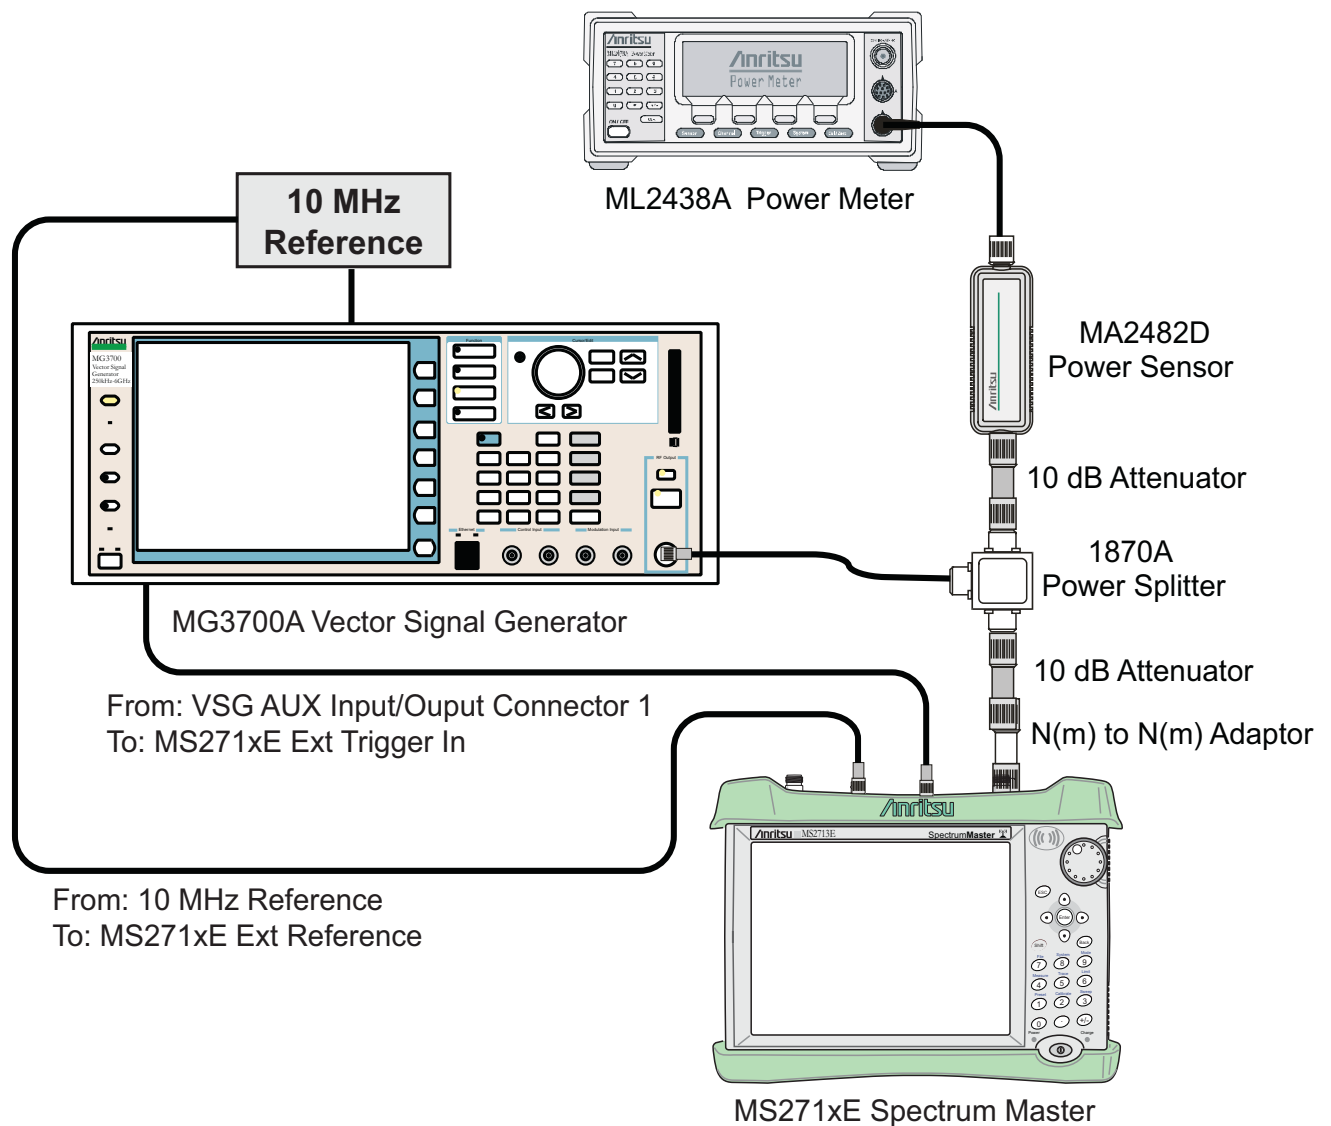

Figure 3-14. TD-SCDMA Signal Analyzer Option Verification
2. Connect the equipment as shown in Figure 3-14.